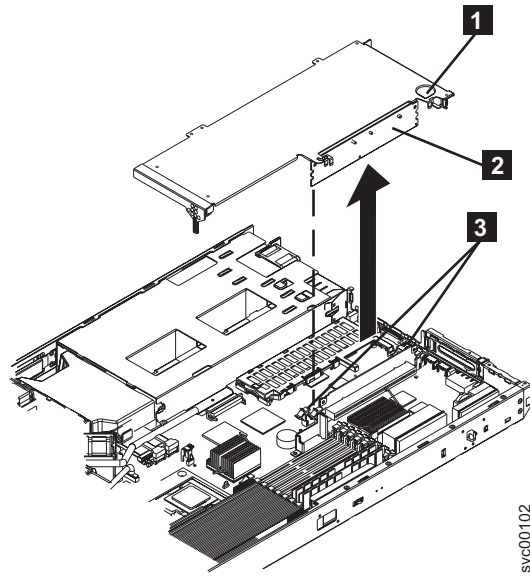

Figure 182. SAN Volume Controller 2145-8F2 or SAN Volume Controller 2145-8F4 slot 2 adapter
- a. Open the retaining clips on both sides of the slot 2 riser card (**2** in Figure 182 on page 197) by pushing the clips down and away from the riser card until the clips are no longer attached to the riser card.